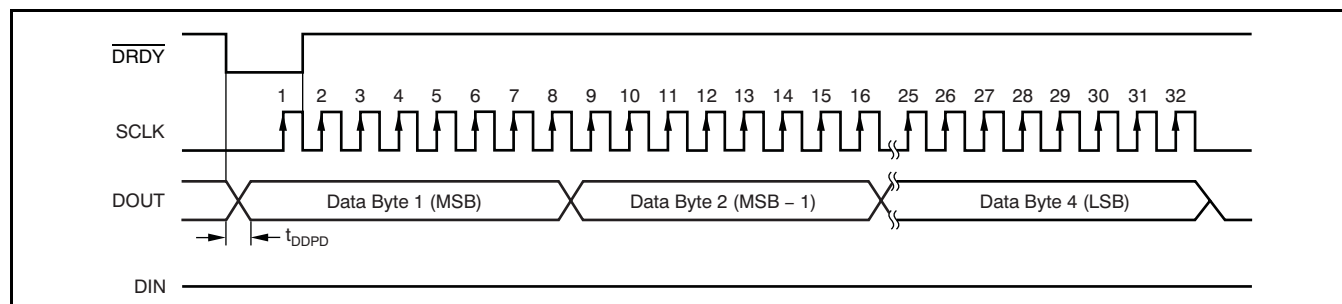

**Figure 47. Read Data Continuous**
In the Read Data Continuous mode, the conversion data are shifted out directly from the device without the need for sending a read command. This mode is the default mode at power-on. This mode is also enabled by the RDATA command. When  $\overline{\text{DRDY}}$  goes low, indicating that new data are available, the MSB of data appears on DOUT, as shown in Figure 47. The data are normally read on the rising
**Table 15. Timing Data for Figure 47**